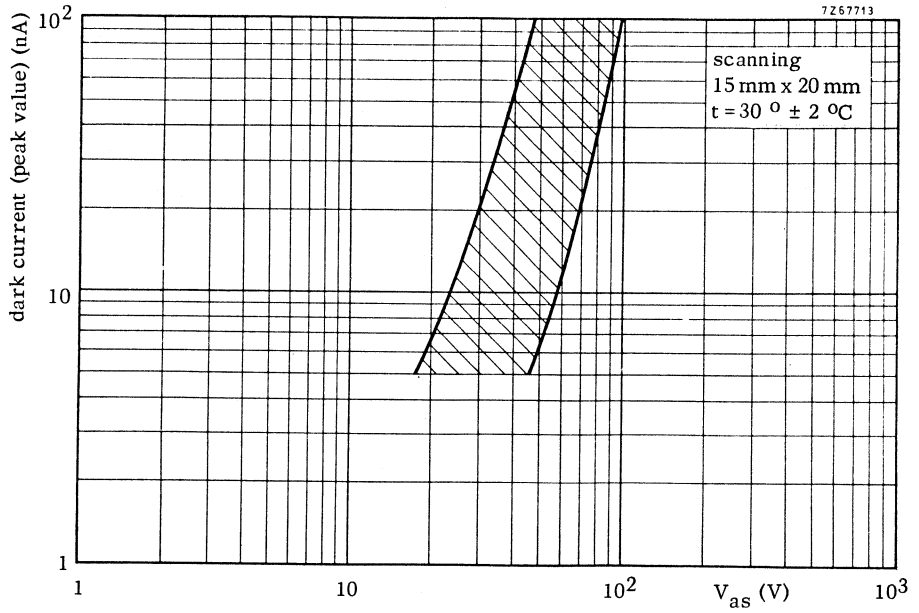

Fig. 2 Dark current range versus signal electrode voltage.
7. The dark current is dependent on the signal electrode voltage and the temperature. This is shown in Figs 2 and 3.